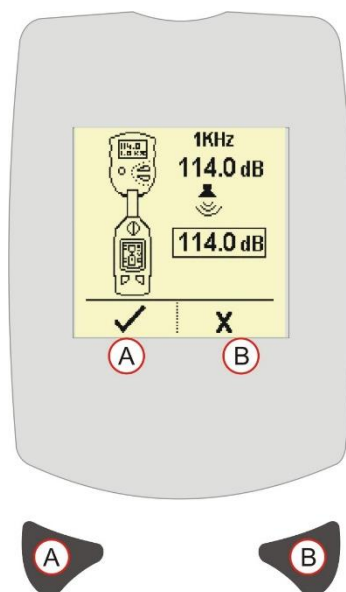

Figure 5 Calibration Mode Screen
- Fit the Acoustic Calibrator firmly over the microphone. The instrument automatically detects a 1kHz tone from a 94 or 114dB Calibrator and enters Calibration Mode (Refer to Figure 5).